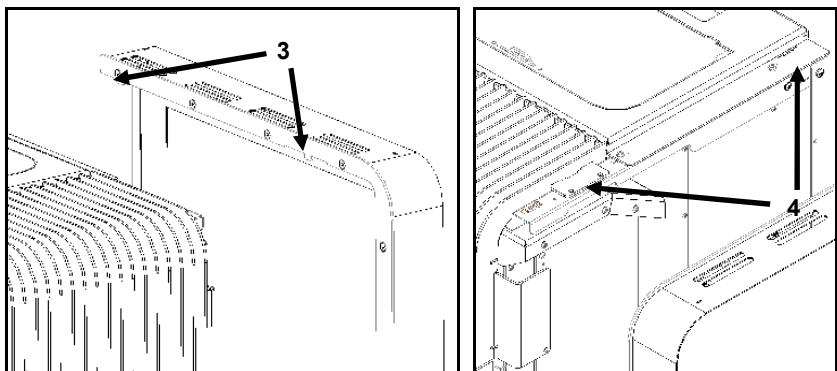

Figure 86 – Assembly of the Aspen covers
d) Then fit the lower holes **1** of the side covers into the guides **2** at the bottom of the machine, and then in the downward direction fit the tabs **3** into the slots **4** as shown in Figure 86.